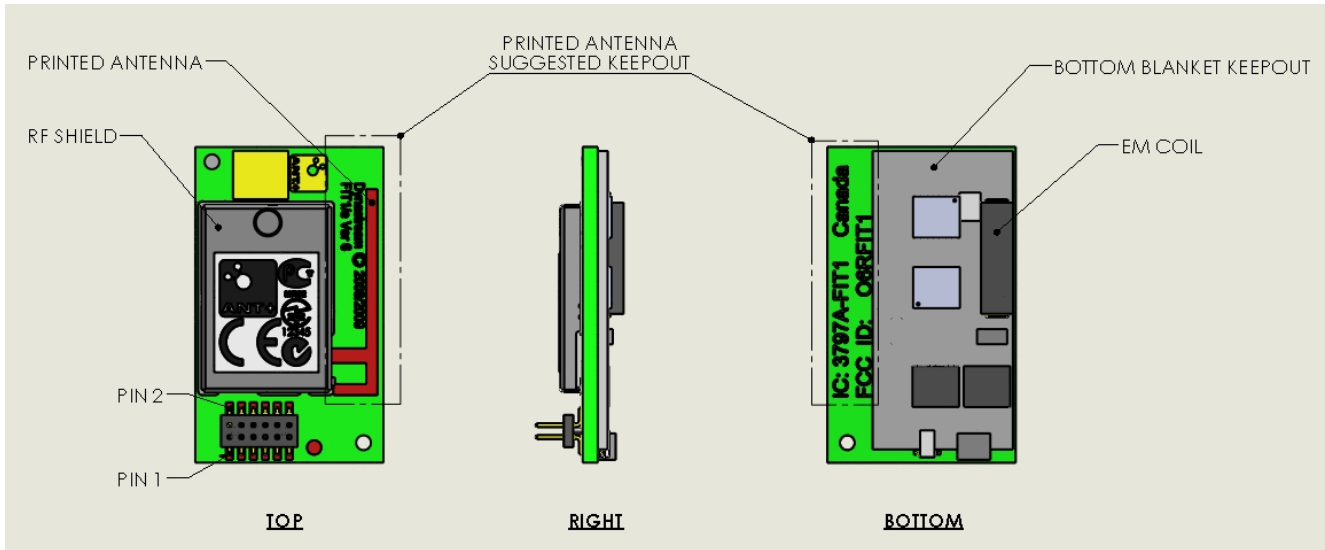

Figure 3 - FIT1e Keepouts and Major Components
1. Do not place metallic objects in contact with the Antenna, Shield, EM coil (on FIT1e) or any other components on the PCB, with the exception of the electrical connection to the header and fastening screws. See Figure 3 for component identification.
5. When determining mechanical fastening methods minimize material on or around printed antenna (on both sides of PCB) and the EM coil (on FIT1/e). Placing material in these areas will affect the radiation pattern, potentially degrading performance. See "Printed Antenna Keepout" in Figure 3. If possible, the module should be placed on or close to the front plastics of the console or enclosure.